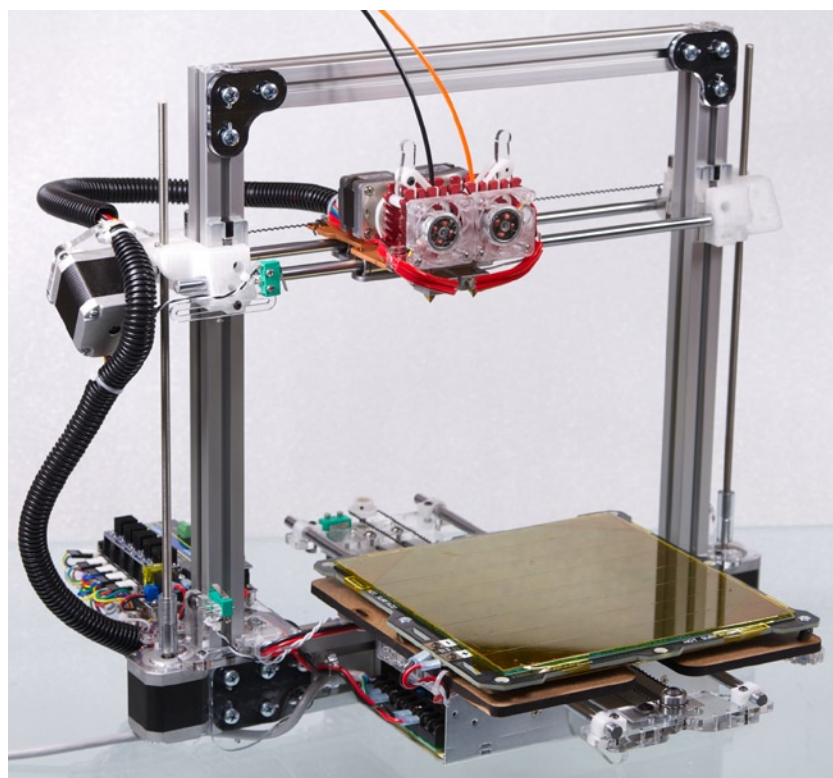
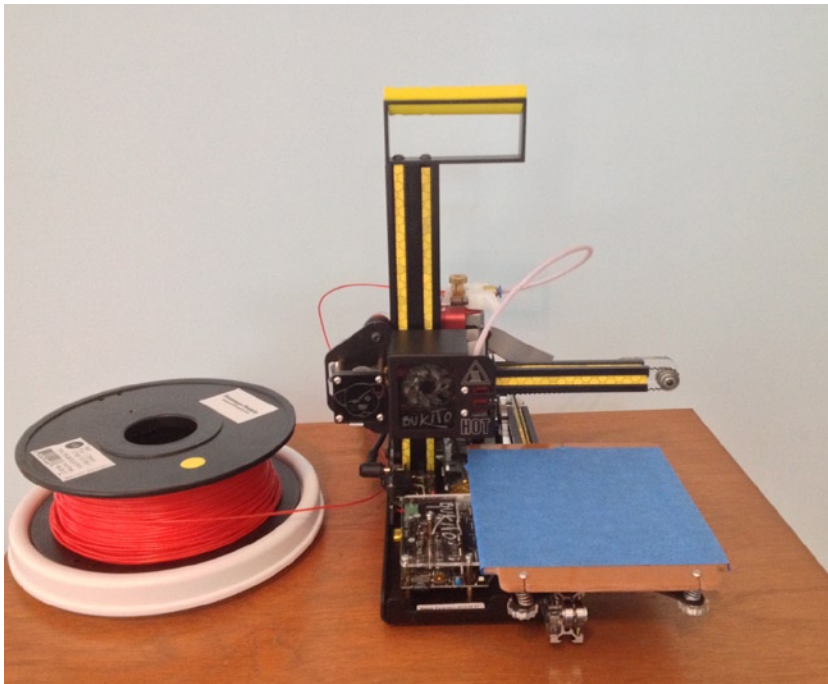

Figure 2-1. A typical Cartesian 3D printer (a Deezmaker Bukobot Duo). Photo courtesy of Deezmaker
Figure 2-2. A cantilevered, gantry-style Cartesian 3D printer (Deezmaker Bukito)
Chapter 9 discusses the process of integrating traditional manufacturing technologies like sand casting with 3D printing to create prototypes in metal more efficiently than is possible with traditional sculptural techniques. Small-run production also can benefit from using a few 3D-printed parts; many startup 3D printer companies use at least some 3D-printed parts for a while until their production runs reach a point where other processes make more sense. The large white parts in Figure 2-1, for example, are 3D printed.
Figure 2-1 shows a Deezmaker Bukobot Duo, a typical Cartesian, RepRap-heritage 3D printer. 3D printers define x , y , z axes. Typically, the z axis is the vertical one. In the case of the machine in Figure 2-1, the x axis direction is from left to right, and the y axis is toward and away from you.
Figure 2-1's design has a build platform (the square platform, where the 3D-printed object will build up) that moves in the y axis (forward and backward in the view in the figure). The build platform rests on the *Y carriage* which moves the platform along the y axis.
The mechanism partway up between the build platform and the top of the frame is the *X carriage*. The *X carriage* carries the *extruder*. The extruder in turn has several major components. The *extruder drive mechanism* drives the filament into the *hot end* where it is melted and extruded through the *nozzle*. In Figure 2-1's design, the extruder moves left to right to create the motion in the x direction. The whole *X carriage* is moved up and down by the motors and screw gears visible on either side to give motion in the z (vertical) direction. Or, to put it another way, the *Z carriage* is the entire x axis.
This design (called a *gantry*, an overhead axis supported on both ends) has the virtue of conceptual simplicity: if you want to move on the y axis, just one motor has to engage. (The y motor is at the back of the machine here and not visible under the build platform; the x motor is the motor at an angle on the left side of Figure 2-1). Different manufacturers make various choices about which axes to move and which parts to keep stationary. Many use the arrangement just described, but some others move either the extruder or the platform in both x and y directions. A Cartesian printer does not have to have a rectangular frame. An open, cantilevered, gantry-style frame (as shown in Figure 2-2) accomplishes the same thing. Because the frame needs to be very stiff to keep the precision of the print high, a gantry is best for smaller build area printers where the extruder is not suspended too far out on a beam.
Figure 2-2 shows a Deezmaker Bukito 3D printer, which has a 5×6-inch platform and a maximum height of 5 inches. (By contrast, the printer in Figure 2-1 was designed to print objects up to those that fit into an 8-inch cube.) This machine moves the extruder from right to left (x axis), moves the platform forward and back (y), and carries the whole x axis up and down to get the z (vertical) dimension.
The printer in Figure 2-1 has a heated platform covered with Kapton high-temperature tape. The one in Figure 2-2 is unheated and covered with blue painter's tape to allow printing of a plastic called PLA (polylactic acid). Chapter 7 details what type of build platform surface is necessary for different filament types.
The extruder is the part of the printer that melts and moves the filament. The extruder has several parts. One is an extruder drive mechanism, which is a motor and a mechanism that pushes the filament into the hot end. The hot end in turn is comprised of a heater, a nozzle, and a sensor (a thermistor) to sense how hot the bed is. You can see two extruders on the printer in Figure 2-1, which is a dual-extruder machine capable of printing objects out of two materials.
There are many different extruder designs, which fall into two major categories. A *direct-drive extruder* (like the one on the machine in Figure 2-1) has a motor and drive gear pushing the filament right next to the hot end. A Bowden extruder (like the one on the machine in Figure 2-2) has a drive gear that is separated from the hot end with a guide tube.
A stepper motor (Figure 2-4) is a precise, brushless, direct current (DC) motor that moves the shaft in predefined angular steps. Motors for 3D printers typically have 200 steps per revolution. The stepper motor is then coupled to a drive screw (like the z-axis motors for the printer in Figure 2-1) or to a belt or cable.